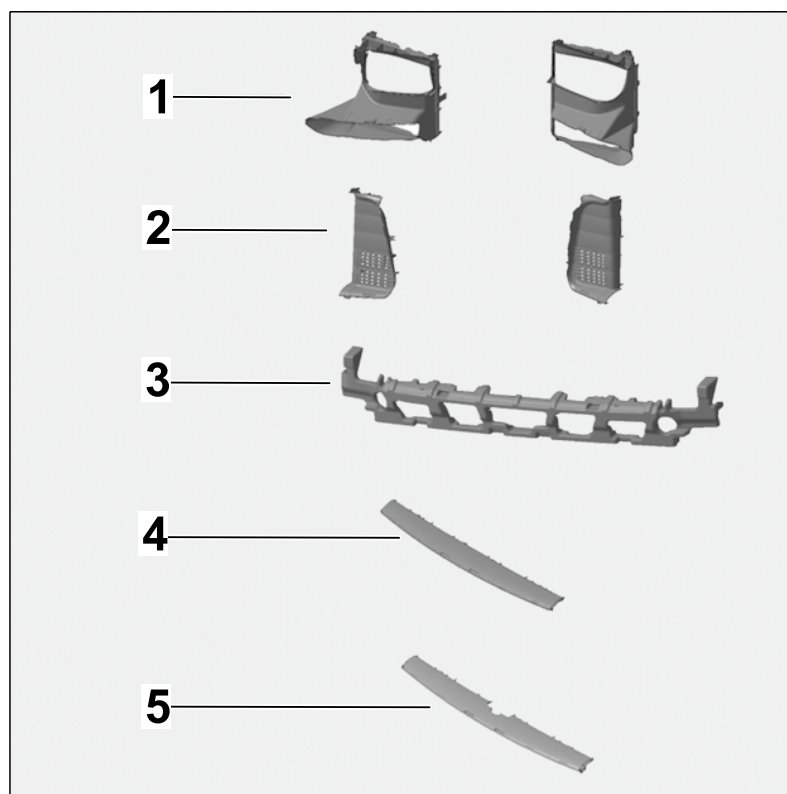

Figure 6
Scope of air guides ⇒ Figure 6 -1 and 2-
Scope of sound absorber for bumper ⇒ Figure 6 -3-
- 3.1.2 Replace air guide for radiator with the supplied radiator guides ⇒ *Workshop Manual 'Removing and installing front air guide'*. Also replace sound absorber on bumper with the supplied new sound absorber ⇒ *Figure 6 -3-* and side air guides ⇒ *Figure 6 -2-*.